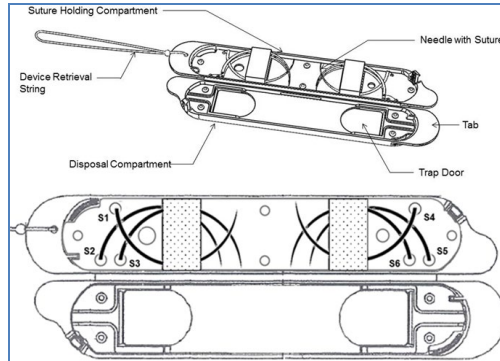

Figure 2 - Views of StitchKit Device when it is open, illustrating key parts and symbols (S1, S2, etc.) on suture exit holes that identify each suture.
Figure 2 shows two views of the StitchKit® device in its open configuration. In the top view key features such as the Disposal Compartment, Retrieval String, and Tabs at the ends of the device are highlighted.
The lower view in Figure 2 illustrates how each suture exits the device through a unique Exit Hole labelled to identify the suture types. In an actual device the generic labels S1 through S6 are replaced with short symbols identifying the actual sutures within the device.
- 5.4. Place the used needle (with remnant suture removed) into the disposal compartment via the trap door. It is typically easier to place the blunt aspect of the needle into the compartment first (Figure 2).